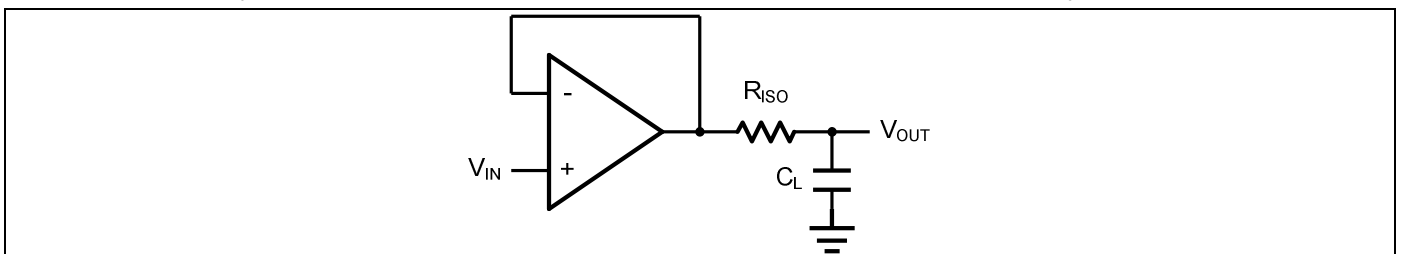
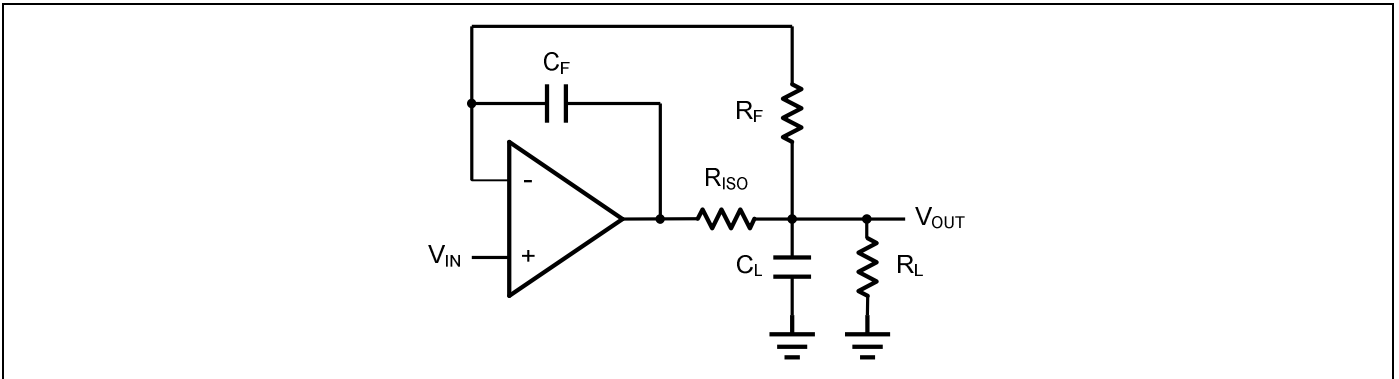

Figure 2. Indirectly Driving a Capacitive Load Using Isolation Resistor
Figure 3. Indirectly Driving a Capacitive Load with DC Accuracy
The HGAx376 family is optimized for bandwidth and speed, not for driving capacitive loads. Output capacitance will create a pole in the amplifier's feedback path, leading to excessive peaking and potential oscillation. If dealing with load capacitance is a requirement of the application, the two strategies to consider are (1) using a small resistor in series with the amplifier's output and the load capacitance and (2) reducing the bandwidth of the amplifier's feedback loop by increasing the overall noise gain. Figure 2. shows a unity gain follower using the series resistor strategy. The resistor isolates the output from the capacitance and, more importantly, creates a zero in the feedback path that compensates for the pole created by the output capacitance.
The circuit in Figure 3 is an improvement to the one in Figure 2. R_F provides the DC accuracy by feed-forward the V_{IN} to R_L . C_F and R_{ISO} serve to counteract the loss of phase margin by feeding the high frequency component of the output signal back to the amplifier's inverting input, thereby preserving the phase margin in the overall feedback loop. Capacitive drive can be increased by increasing the value of C_F . This in turn will slow down the pulse response.